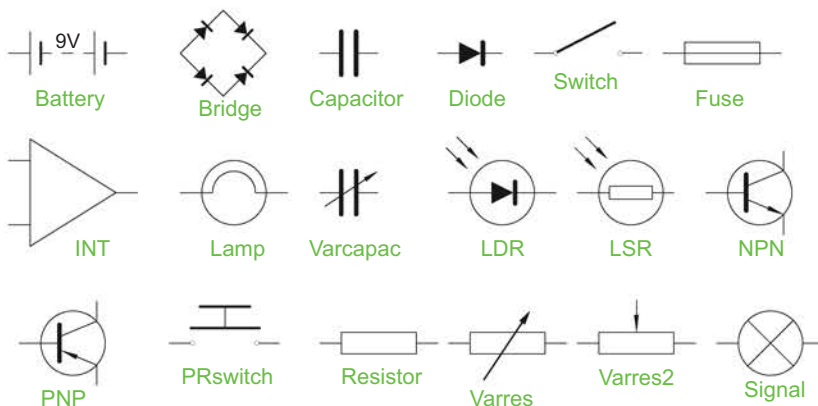
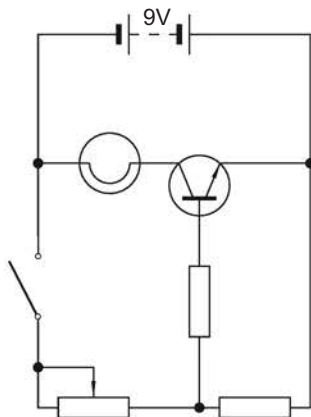

Fig. 13.16 Example using the DesignCenter – electric/electronic symbols
Fig. 13.22 Exercise 3
1. Construct the set of electric/electronic circuit symbols shown in Fig. 13.16 and make a series of blocks from each of the symbols.
2. Construct the electronics circuit given in Fig. 13.22 from the file **electronics.dwg** (Fig. 13.16) using the **DesignCenter**.